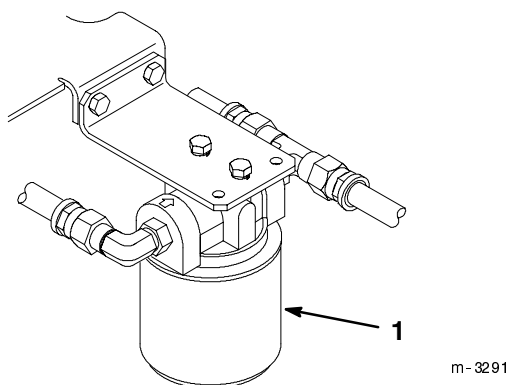

Figure 78
3. Place drain pan under filter, remove the old filter and wipe the filter adapter gasket surface clean (Fig. 78).